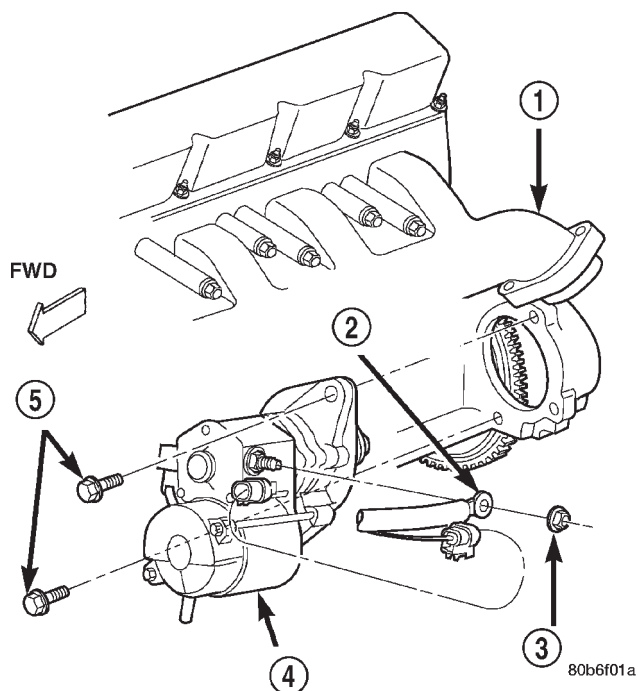

Fig. 12 Starter Motor Remove/Install - 8.0L Gasoline Engine
(1) Disconnect and isolate negative battery cable.
(2) Raise and support vehicle.
(3) Remove nut securing battery positive cable wire harness connector eyelet to solenoid battery terminal stud (Fig. 12).
(4) Remove battery positive cable connector eyelet from solenoid battery terminal stud.
(5) Disconnect battery positive cable wire harness connector from solenoid terminal connector receptacle.